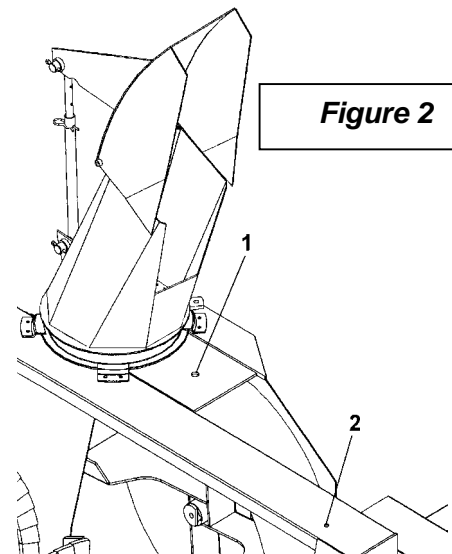

Figure 2
1. Grease base of chute then place chute on top of it. Install the three retaining plates using six 1/2" x 1 1/4" bolts (item 14), lockwashers and nuts (items 7-8).
2. Align flat bar (item 1) with the two holes on top of the snowblower (fig 2, items 1-2) making sure the attaching plate (item 1A) faces the 3 pt hitch. Attach with a 3/4"NC x 2 1/2" bolt, lockwashers and nuts (items 9-8-7) in hole next to the chute (fig 2, item 1), and a 1/2"NC x 1 1/2" bolt, lockwasher and a 1/2"NC hex. nut (items 2-8-7) in the side hole (fig.2, item 2).
3. Install manual rotation bracket (item 10) on attaching plate (item 1A). Secure with a 5/8" x 2 1/2" bolt, two 11/16" flat washers and nylon nut (items 17-5-6) on the left side, and a 1/2"NC x 1 3/4" bolt, lockwasher and nut (items 11-8-7) on the right side.